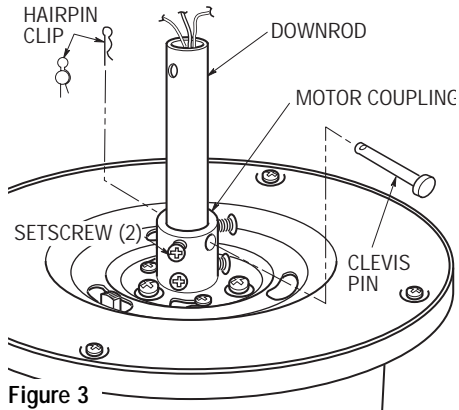

Figure 3
- 2. Unscrew the two upper setscrews (Figure 3) until they clear the inside of the motor coupling. Then separate, untwist and unkink the three 80" motor leads. Route the motor lead wires through the downrod. Align the clevis pin holes in the downrod with the holes in the motor coupling. Install the clevis pin and secure with the hairpin clip (Figure 3). The clevis pin must go through the holes in the motor coupling and the holes in the downrod. Be sure to push the straight leg of the hairpin clip through the hole near the end of the clevis pin until the curved portion of the hairpin clip snaps around the clevis pin. The hairpin clip must be properly installed to prevent the clevis pin from working loose. Pull up on the downrod to make sure the clevis pin is properly installed.
It is critical that the clevis pin in the motor coupling is properly installed and the setscrews securely tightened. Failure to verify that the pin and setscrews are properly installed (as shown in Figure 3) could result in the fan falling.
- 3. Tighten the setscrews (Figure 3) securely while pulling up on the downrod.